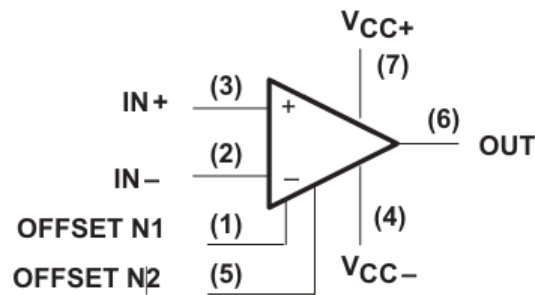

Figure 11.3.3: Pin Configuration of Op-741
3. This circuit must be connected as per the pin configuration of the IC. Refer to Fig. 11.3.3.